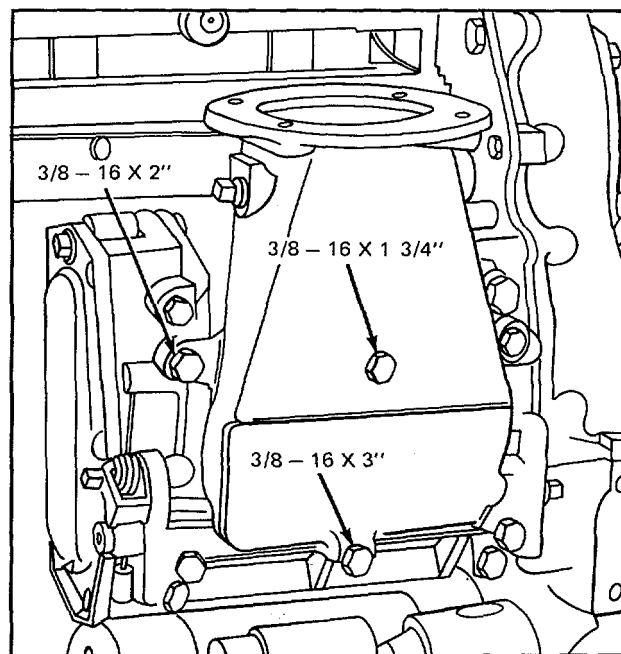

Figure 3. Location of Air Shutdown Housing Mounting Bolts (In-Line Engines)
- a. Install and finger-tighten the six attaching bolts shown in Fig. 3.